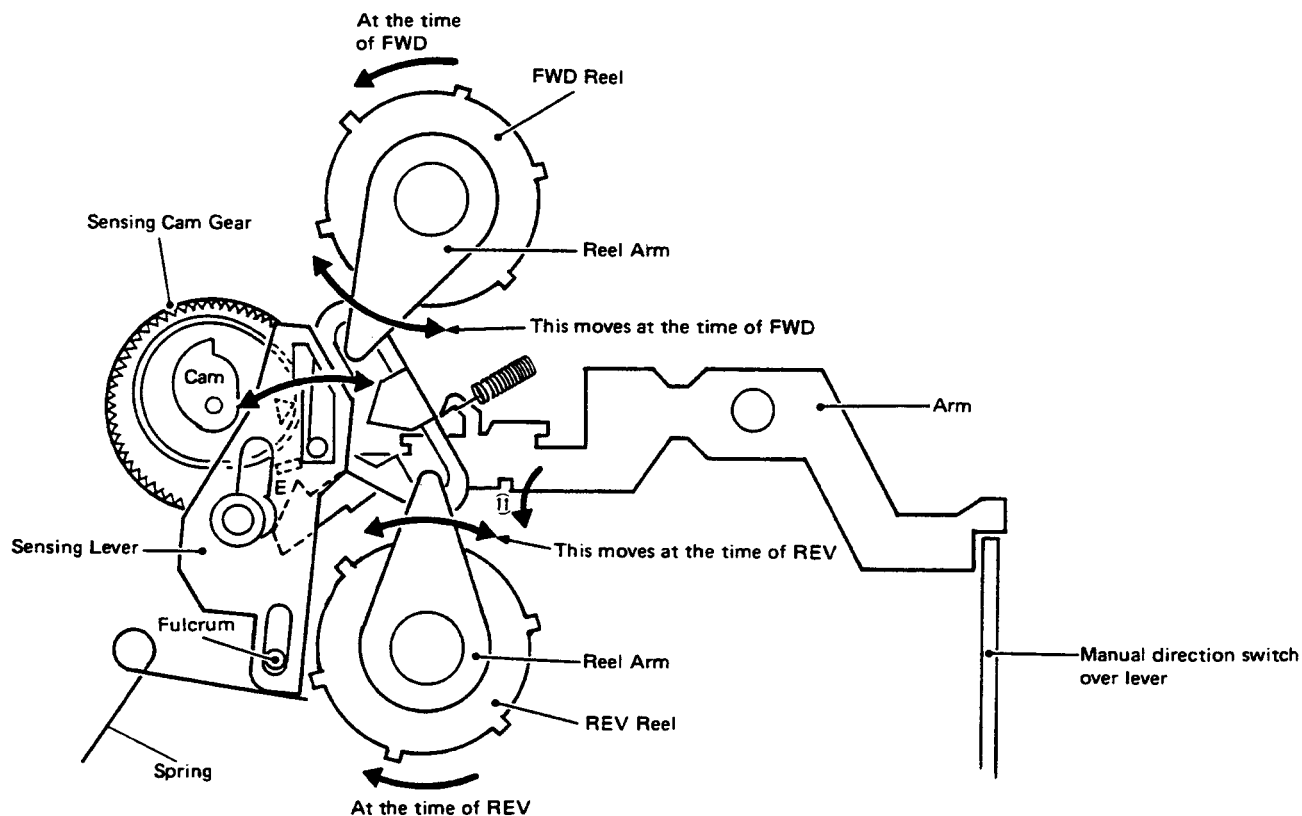

Fig. 18
● Sensing Operation (Fig. 18, 19, 20)
1. When the manual direction switch over lever of Fig. 18 is pushed, the arm moves along arrow direction ⑪. Further operation is identical to that in auto.